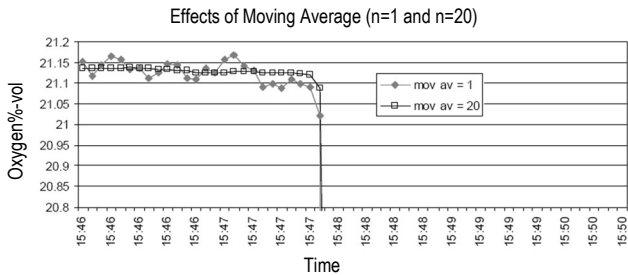

Figure 1.10 Comparison of the response of VISIFERM DO ARC to a change from air to nitrogen, using n=1 (no moving average) or a moving average of n=20
A moving average improves signal stability over the short term. However, the response time of the sensor increases (degrades) with the increased moving average. For example, VISIFERM DO ARC calculates a new oxygen reading every three seconds. You can smooth this reading by means of a moving average (Figure 1.10, on Page 33). However, a moving average applied to 20 three-second readings results in a response time of at least 60 seconds. The Specialist can set the number of readings in the moving average array between 1 and 16 (pH and conductivity sensors), or 1 and 30 (DO sensor), or can enter a value of zero (0) to activate the automatic mode, in which the sensor varies this setting depending on the measuring signal trend.